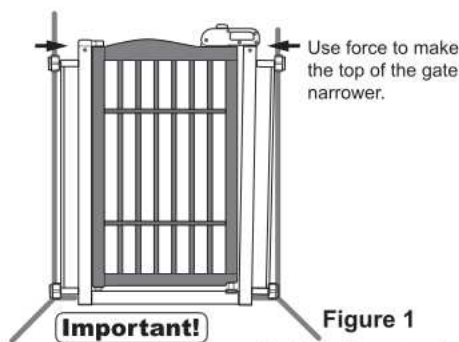

Figure 1
- The bottom of the product should contact the floor for safety as shown in Figure 1.
*The top width of the frame may be wider than the wall since the product is designed to be installed using a tension-spring effect. If necessary, use force to make the top of the gate narrower to fit between the wall as shown in Figure 1.